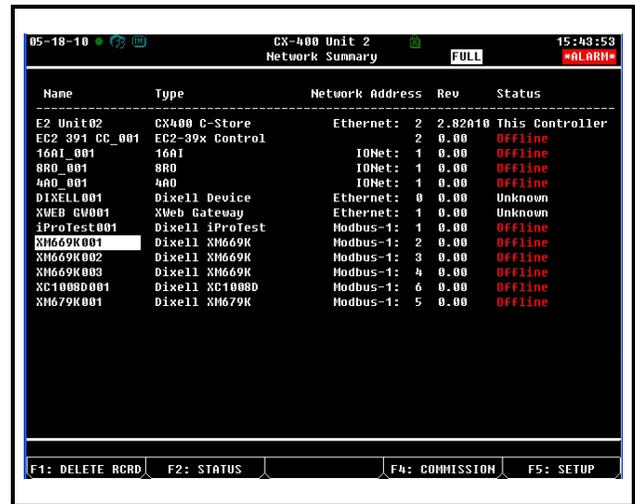

Figure 18-7 - Network Summary Screen
8. When finished, press  to return to the *Network Setup* menu, then press **1** - **Network Summary** (Figure 18-7). Locate the devices you set up, and look at each device's status in the **Status** field. You will see one of the following messages: